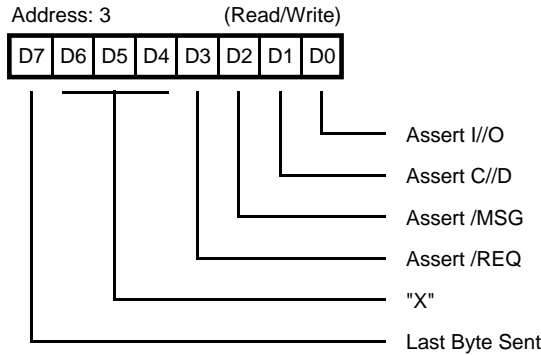

Figure 11. Target Command Register
Target Command Register. Address 3 (Read/Write). When connected as a target device, the Target Command Register (Figure 11) allows the CPU to control the SCSI Bus Information Transfer phase and/or to assert /REQ by writing this register. The Targetmode bit (Mode Register, bit 6) must be True (1) for bus assertion to occur. The SCSI Bus phases are described in Table 2.